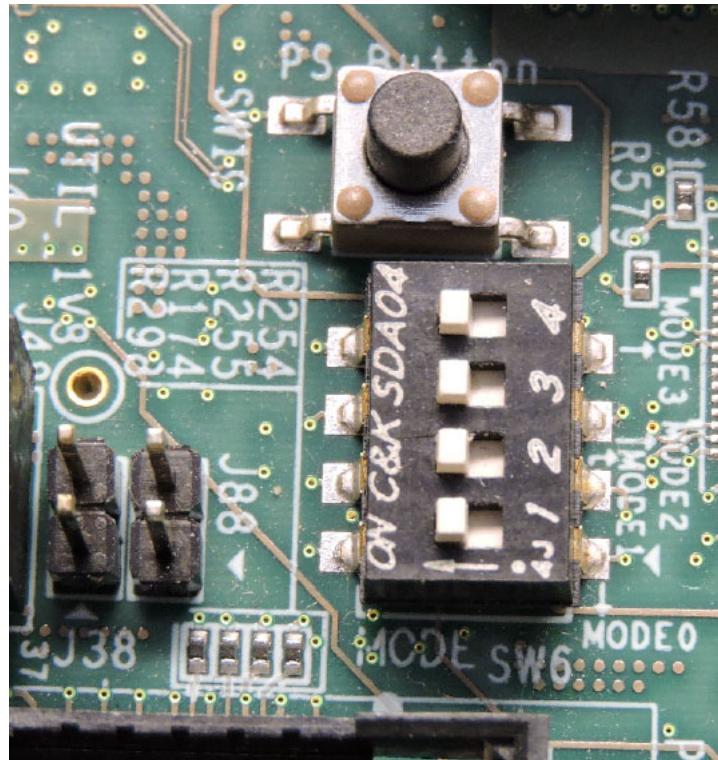

Figure 6: ZCU102 JTAG Boot Mode Switch
9. On the ZCU102 development board, set the dip switch SW6 to configure the board for JTAG boot mode as shown in Figure 6.